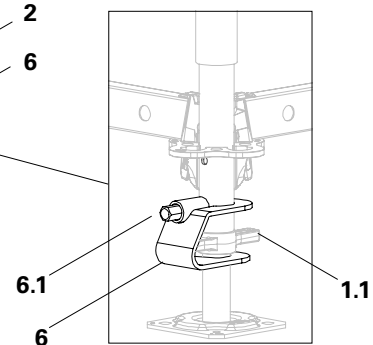

Fig. A1.01a
3. Horizontally align frame by adjusting the Adjustable Base Plates (1).
5. Secure Adjustable Base Plates by means of Spindle Locking devices. (Fig. A1.01a)